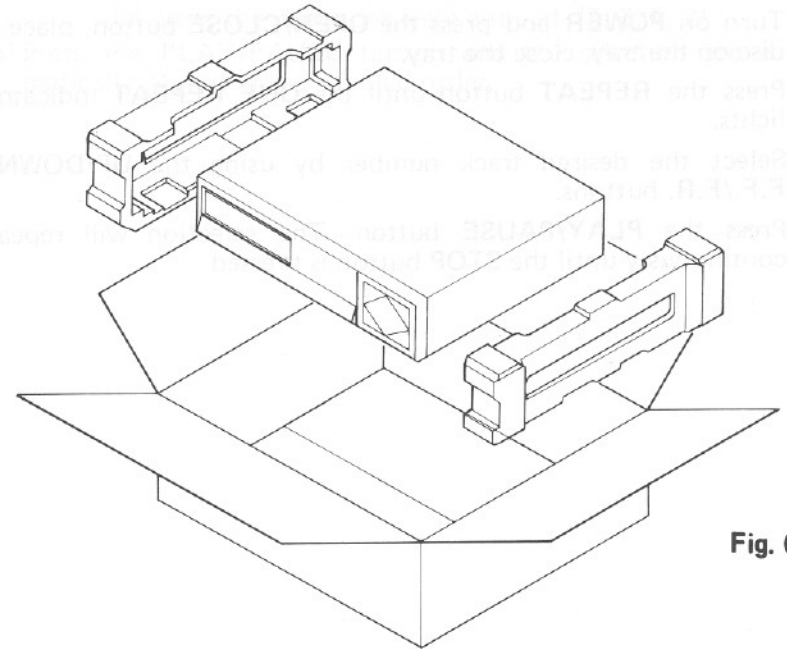

Fig. 6
- a. Pack the unit carefully, using the original material as shown in Fig. 6.